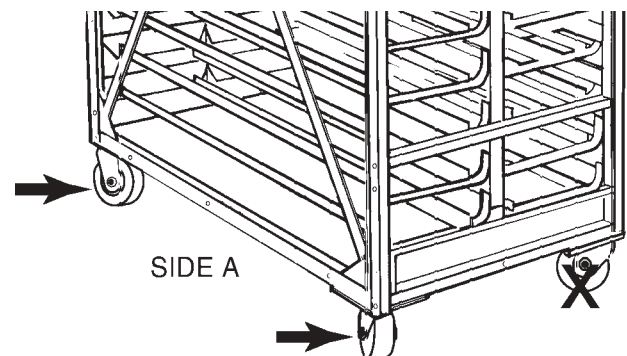

Figure 24: Tightening one Side Frame to its Castors
Step 20: On one side only, tighten down the bolts that attach that particular side frame to its castors as in Figure 24.